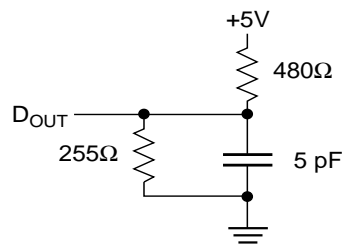

Figure 2. Output Load Equivalent
5. The parameter is tested with $CL = 5$ pF as shown in Figure 2. Transition is measured ± 200 mV from steady state voltage.